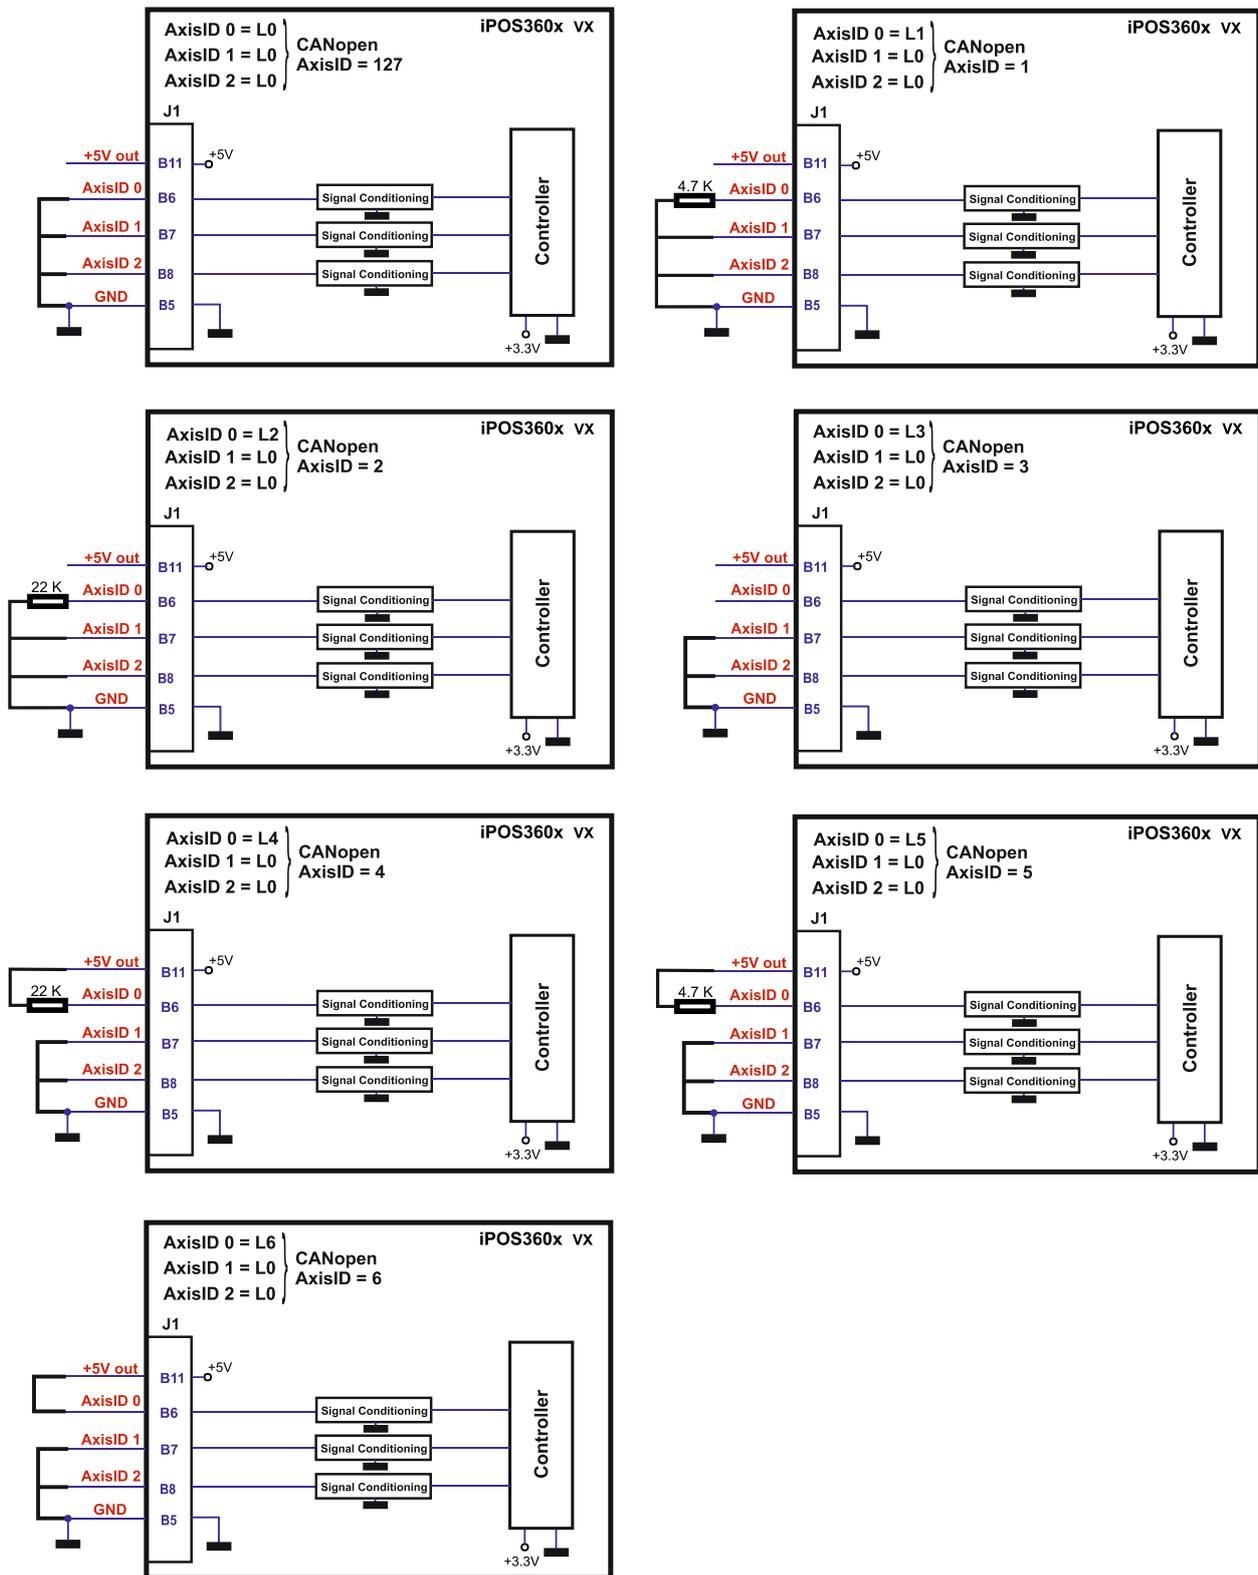

Figure 3.33. Axis ID Setting Examples. CANopen mode
- Hardware: connecting all digital Hall inputs to GND, as shown in **Figure 3.33**. This option is particularly useful when you are unable to establish communication with the drive.
In some very rare cases, the setup table might be corrupted, leading to a loop where the drive resets continuously. This behavior can be noticed by seeing both the Ready and Error LED blinking for short periods of time continuously. To recover from this behavior, the setup table can be invalidated by connecting all digital Hall inputs to GND, as shown in **Figure 3.33**.